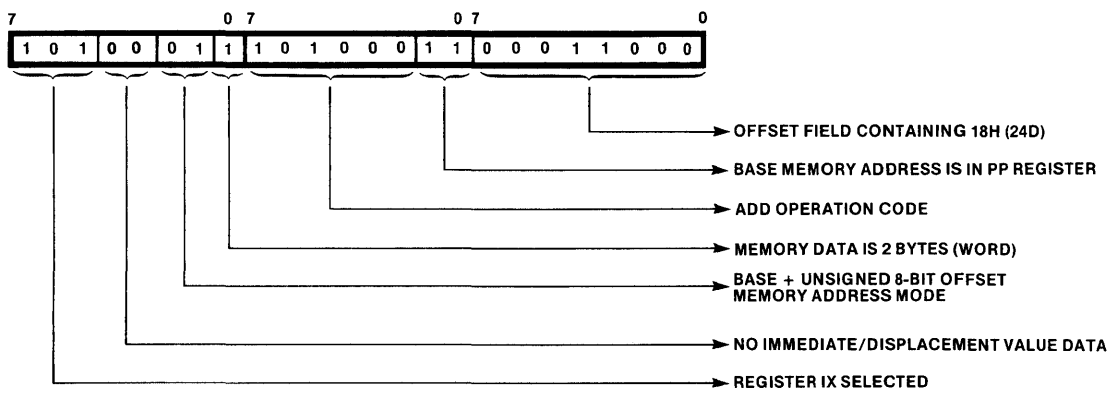

Figure 3-2. Assembled Encoding of ADD IX, [PP].24
1. Figure 3-2 shows the assembled instruction ADD IX, [PP].24